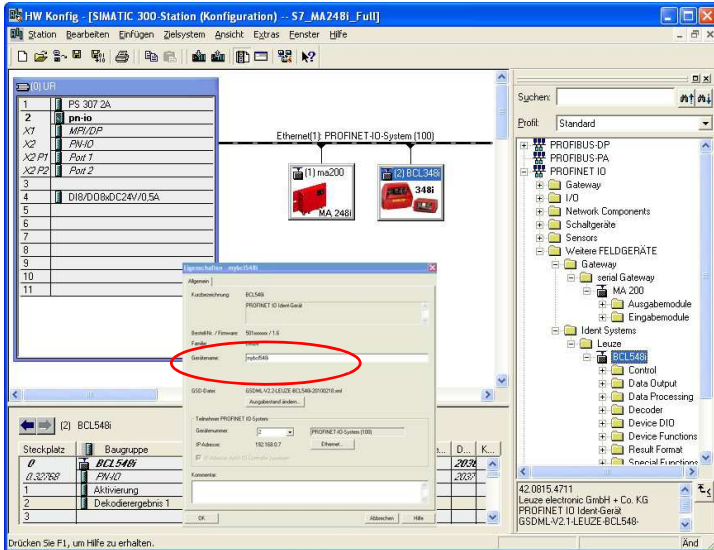

Figure 10.3: Assignment of the device names to IP addresses
- Assignment of the device names to the configured IO devices (Figure 10.3...)